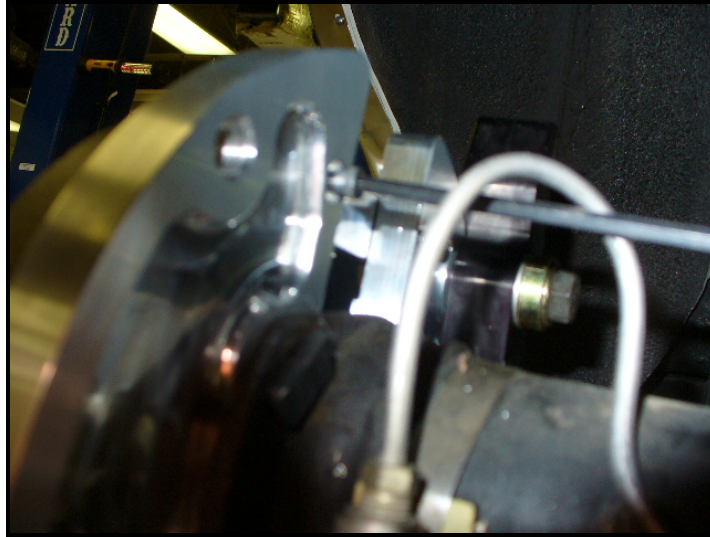

Figure 4: Insert allen bolts into retainer bracket
8. Secure the park brake shoe with the provided allen screws. Torque each bolt to 10-12 ft-lbs. This procedure is similar for all SS4, Pro+, and Ext+ Systems. Figure 4 shows the installation.